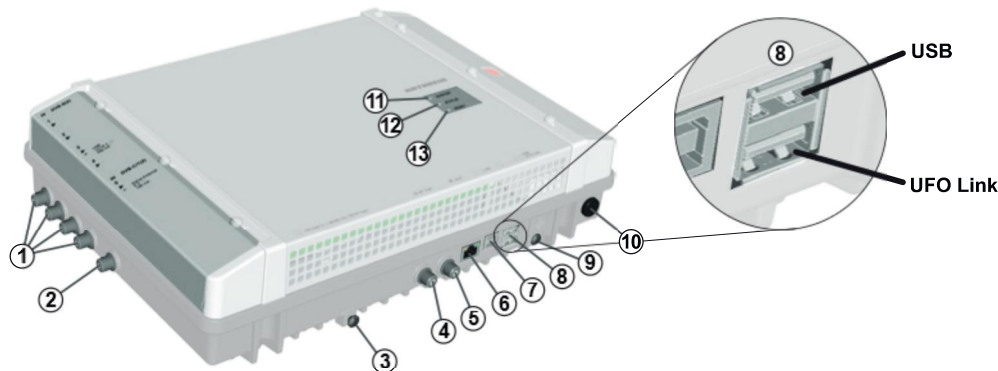

Fig. 1: Device elements
1. Connect a potential equalisation wire (Cu,  $\geq 4 \text{ mm}^2$ ) to the earthing screw; see ④ in Fig. 1, P. 3.
- The plugs must be inserted into the master and slave at the appropriate UFO link interface ports (③ in Fig. 1).